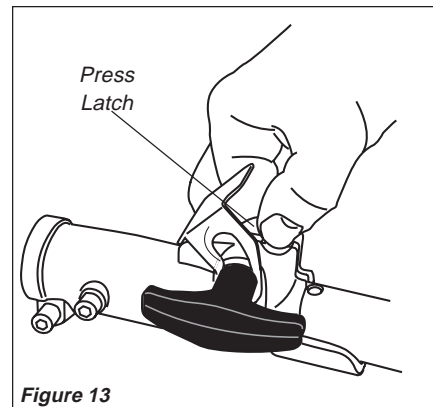

Figure 13
2. Press down on the latch with your finger or thumb. See Figure 13. This releases the coupler lock.